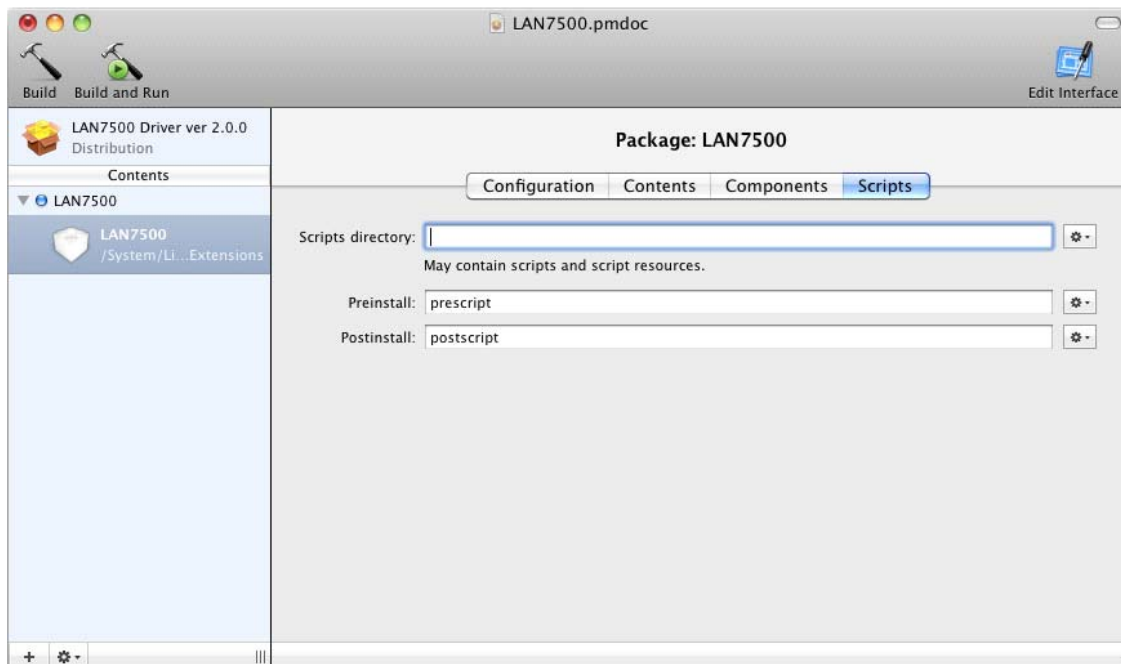

Figure 8.11 Scripts Information
9. Under the “Scripts” heading, add the prescript and postscript files created earlier to the Preinstall and Postinstall fields as shown in Figure 8.11.